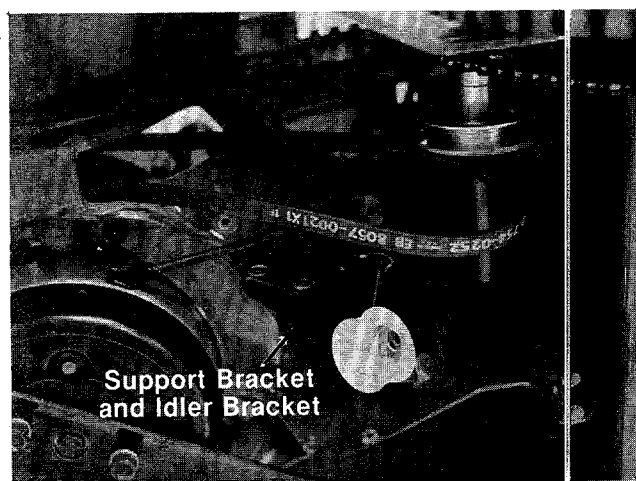

FIGURE 25.
9. Remove belt as shown in figure 25. Reassemble in reverse order with new belt.